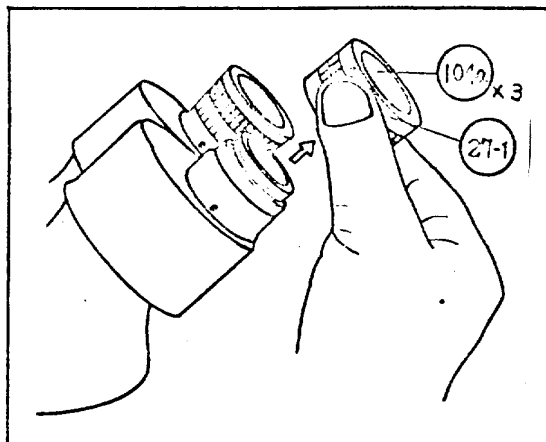

Fig. 3
- 1) Releasing the set screws (104a) x3, take off the diopter ring (27-1) (Fig. 3).